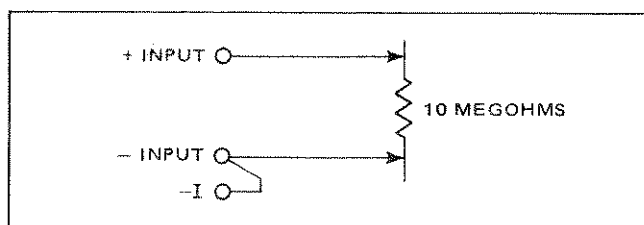

Figure 5.5 - Ohms Input Connection
- Remove short from INPUT and CURRENT terminals. Connect a 10 Megohm standard resistor across the $\pm$ INPUT terminals. Do not connect the + CURRENT lead (figure 5.5).